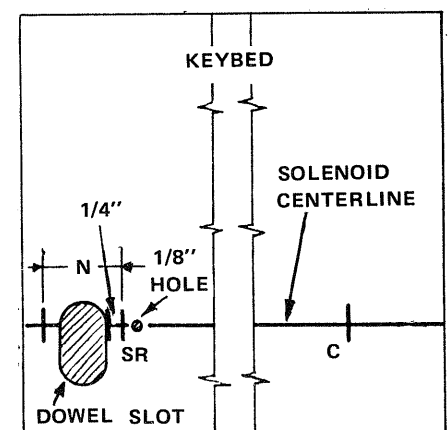

FIGURE 2-15 Measure dimension N and mark the Solenoid Centerline.
- B. If the end of the measurement falls at the RIGHT edge, on, or to the LEFT of the Pedal Dowel Slot, determine how far to the RIGHT of the Slot the end of the rail will have to be trimmed so it ends 1/4" to the RIGHT of the slot (dimension N in FIGURE 2-15) and write the amount of Line N under this Step on the Check List. Place a mark 1/4" to the RIGHT of the Slot and label the mark "SR" as shown in FIGURE 2-15. See the NOTE below.